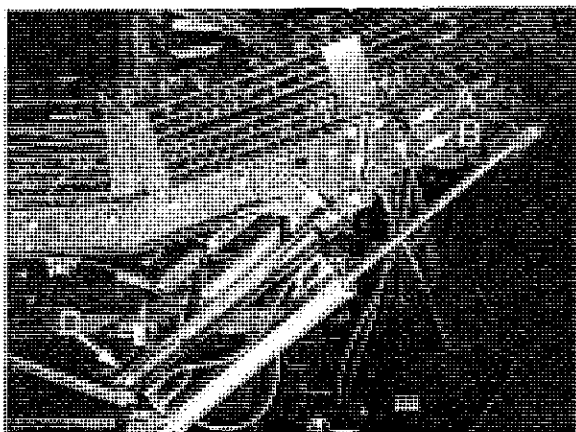
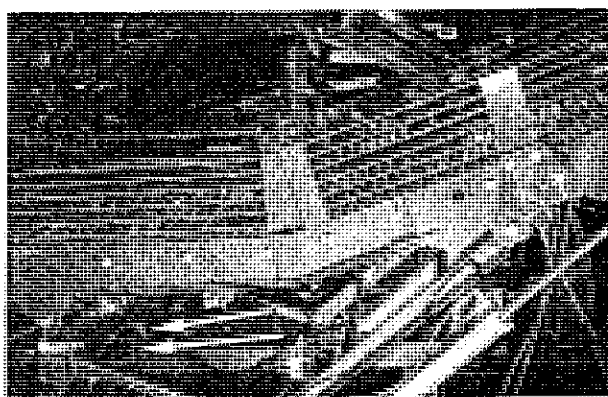

Figure 51. Adjusting the Truck Elevator Height and Boom Stop
Figure 52. In-Out Adjustment of Truck Elevator; Arrows Show Two of Six U-bolts.
**Setting Boom Height** - To adjust the height of the truck elevator boom, raise the boom to the operating position. Install 1" bolts (Figure 51-B) just below the pivot point (A) to secure the boom. Loosen bolts C and remove bolts D on the channels that support the elevator. Operate the cylinders to assist removal of the lower bolts (D) and for positioning the bolts to a different setting. Tighten all loosened bolts and remove the upper 1" bolts (B) before folding the elevator.
**Setting Boom Stops**- Boom stops (Figure 51-E) MUST be set to prevent the boom from contacting the harvester frame when the boom is lowered. The boom stops are plates that can be installed in several positions. To set the stops, first remove them and then use the cylinders to lower the boom to the down position. Do *not* let the boom contact the frame. Then install the stops in the position that will prevent the boom from contacting the harvester when lowered fully.
To adjust the settings, raise the truck boom and install 1" bolts (Figure 51-B) just below the pivot point (A) to secure the boom. Remove the grate(s) from the truck elevator at the point where the tank elevator dumps into it. Attach suitable hoists to support the elevator. Loosen hose bindings at the points where additional length will be required. Remove the six (6) U-bolts that are holding the lower 4"x4" square tubes to the tank frame. The arrows in Figure 52 show 2 of the 6 U-bolts). Slide the elevator and support assembly to the new position. Install the U-bolts that secure the 4"x4" tubes to the frame. Install any grates that were removed. Secure the hoses.